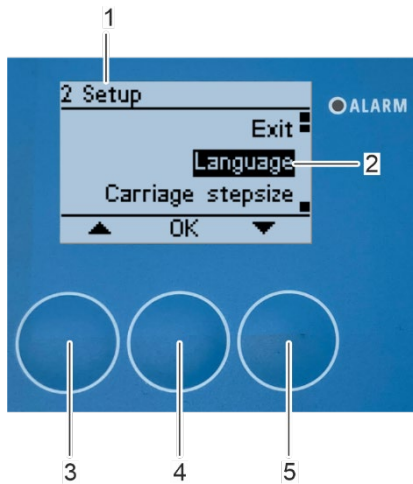

Fig. 124: Select submenu "language"
1. Select the "Language" submenu (Fig. 124/2) with the arrow keys *[up]* (Fig. 124/3) and *[down]* (Fig. 124/5).
2. Confirm the selection with *[OK]* (Fig. 124/4).